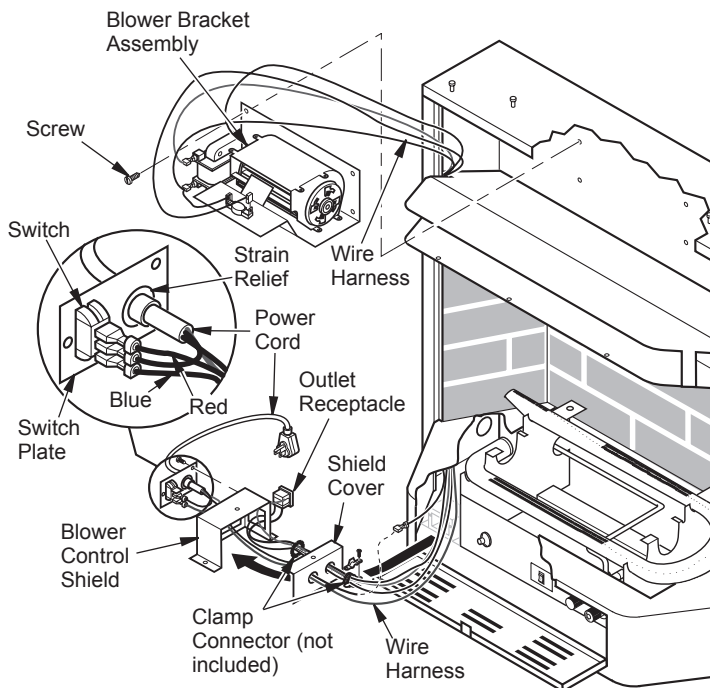

Figure 17 - Installing Blower Bracket Assembly
3. Remove black plastic strain relief and power cord from switch plate (see Figure 17). The power cord supplied will not be used in built-in installations. Pop in the plastic snap bushing found in hardware kit into the hole left by supply cord/strain relief.